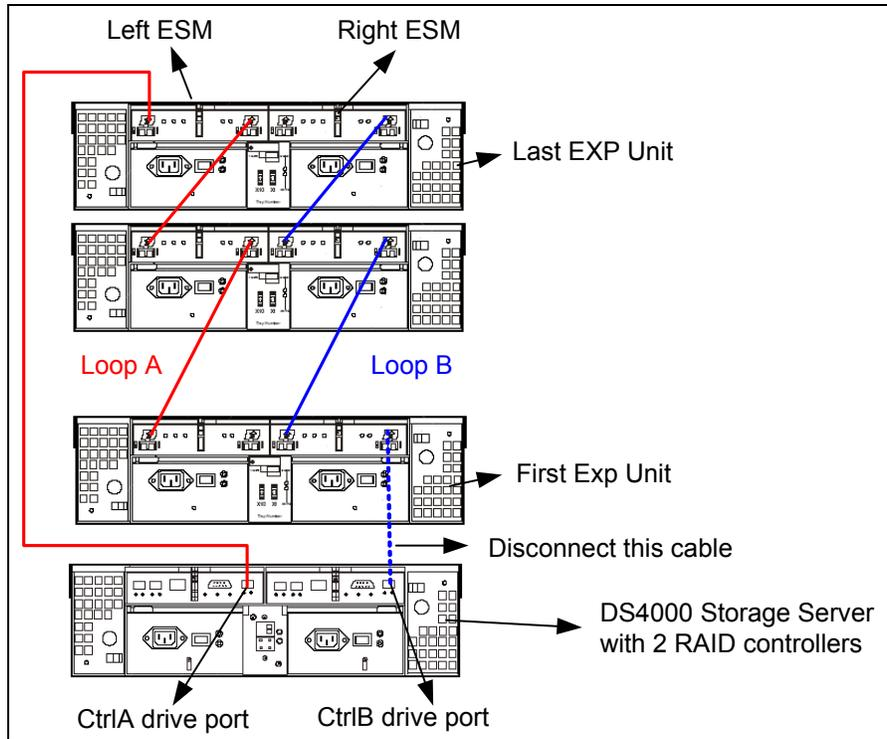

Figure 12-45 Disconnect FC cable from the DS4000 to the first EXP700
5. Disconnect the Fibre Channel cable that connects the right-hand storage server controller drive port to the first storage expansion unit. In Figure 12-45 this cable is shown with a dashed line. Mark the cable for later use. Do not reconnect this cable until you have replaced all the ESMs to be upgraded in the disconnected drive loop.
7. After you have upgraded and reconnected each ESM in the right-side drive loop, reconnect the Fibre Channel cable from the controller drive port to the first EXP710 ESM port (disconnected in step 5.) In Figure 12-45 on page 715, this cable is shown with a dashed line.
11. Repeat steps 5 through 9 to upgrade the ESMs in the second (left-side) drive loop. Begin by disconnecting the Fibre Channel cable that connects the left-hand storage server controller drive port to the last storage expansion unit on top in Figure 12-45 on page 715. You will reconnect this cable only after you have replaced all the ESMs to be upgraded in the second drive loop.